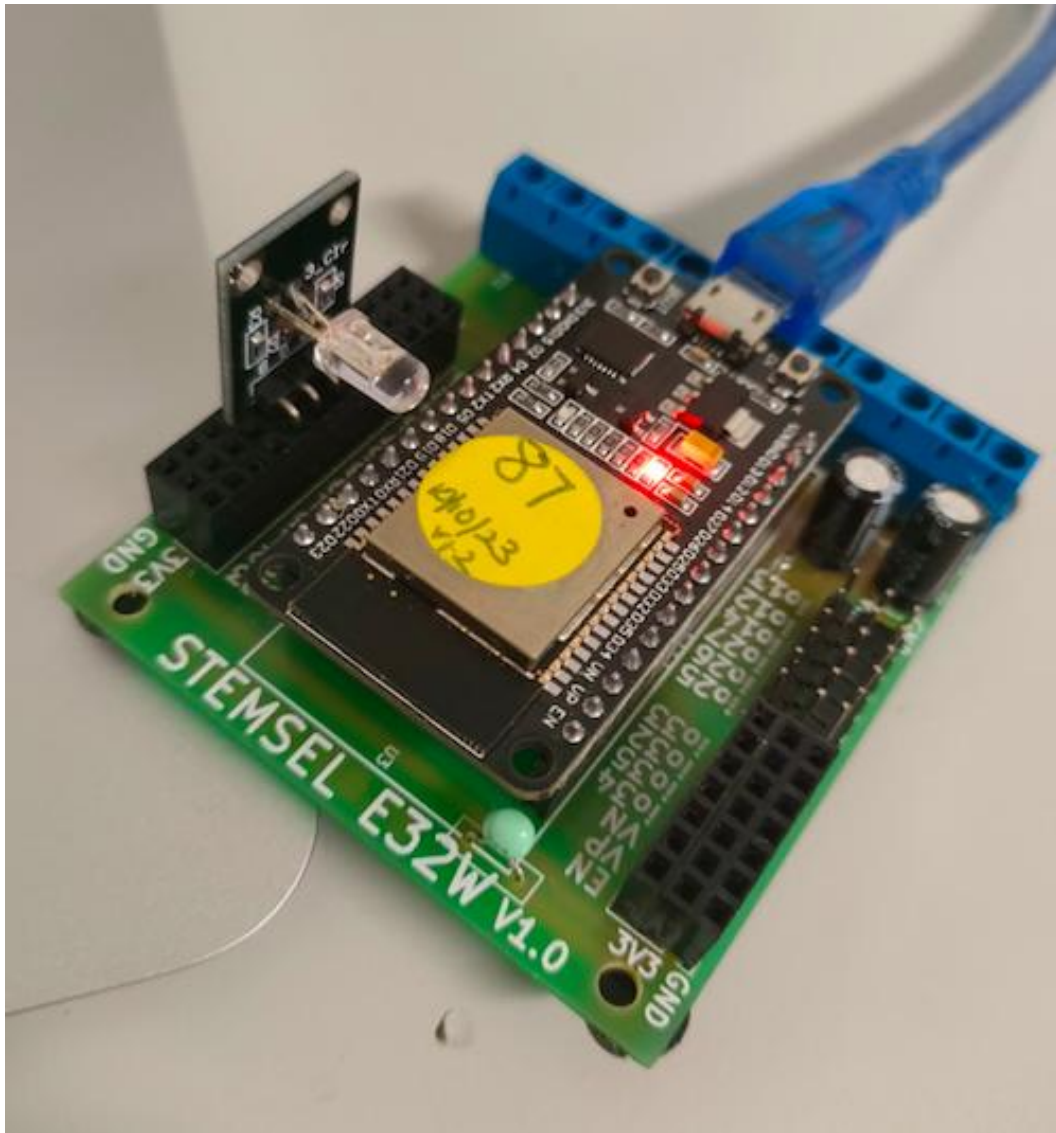

Figure 7: E32W board connection with RGB module (side view).
- a.) Plug in the negative pin on the 4-pins RGB LED into port io5, the rest should be in horizontal order and plug into ports io18, io19, io21. Please refer to **Figure 7** for more detail.